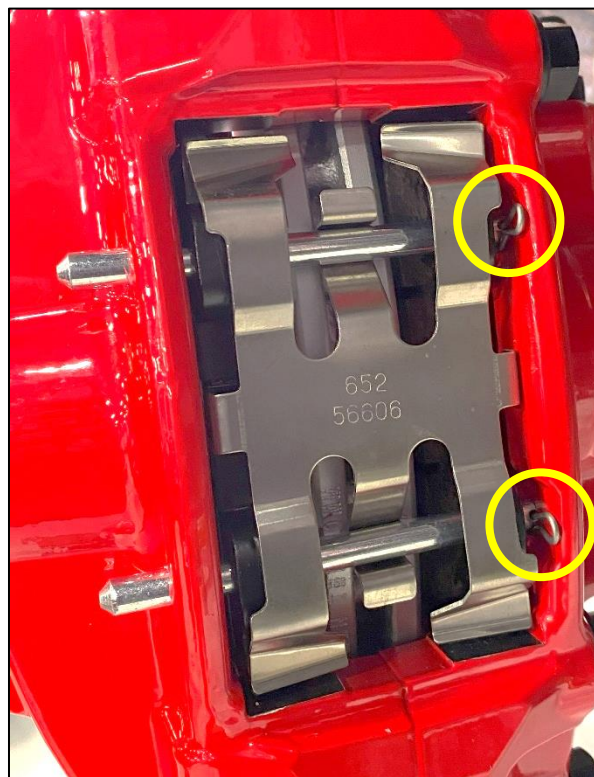

Figure 20
25. Locate (2) two Cotter Pins. Insert them through the Brake Pad Retainer Pins installed in *Step 24*. The Retaining Pins may need to be rotated to allow access for the Cotter Pin Holes. *Figure 20.*